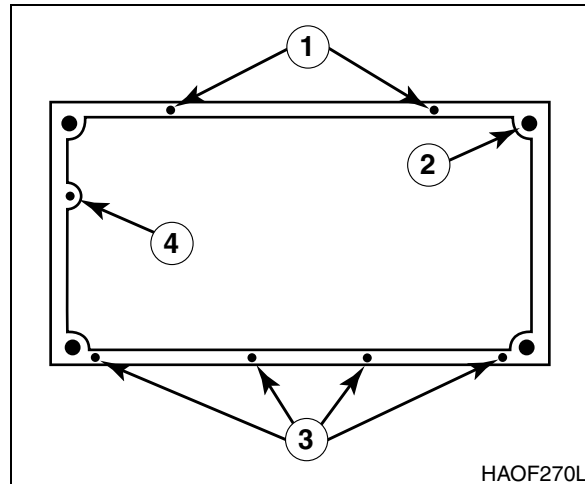

Figure 6
24. Remove four mounting nuts from four corners of cabin floor (2, Figure 6).
25. Remove four hex bolts (3, Figure 6) from door side of cabin floor.
26. Remove two hex bolts (1, Figure 6) from right side of cabin floor and one bolt (4) from front of cab floor.